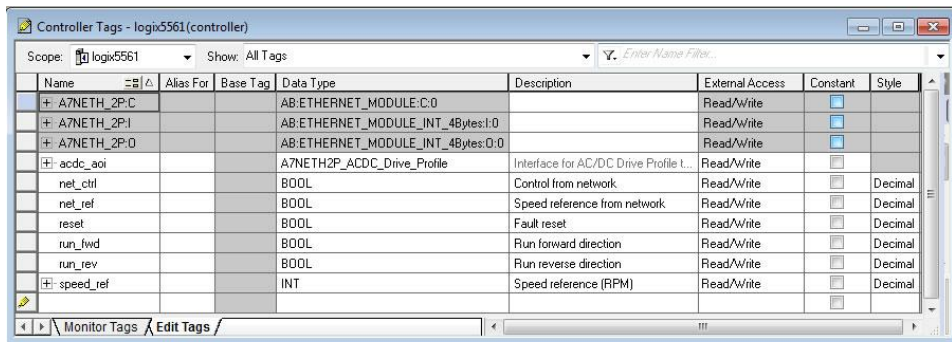

Figure 36: Create AC/DC Drive Profile AOI Tags
- 4) Create the tags shown in Figure 36.